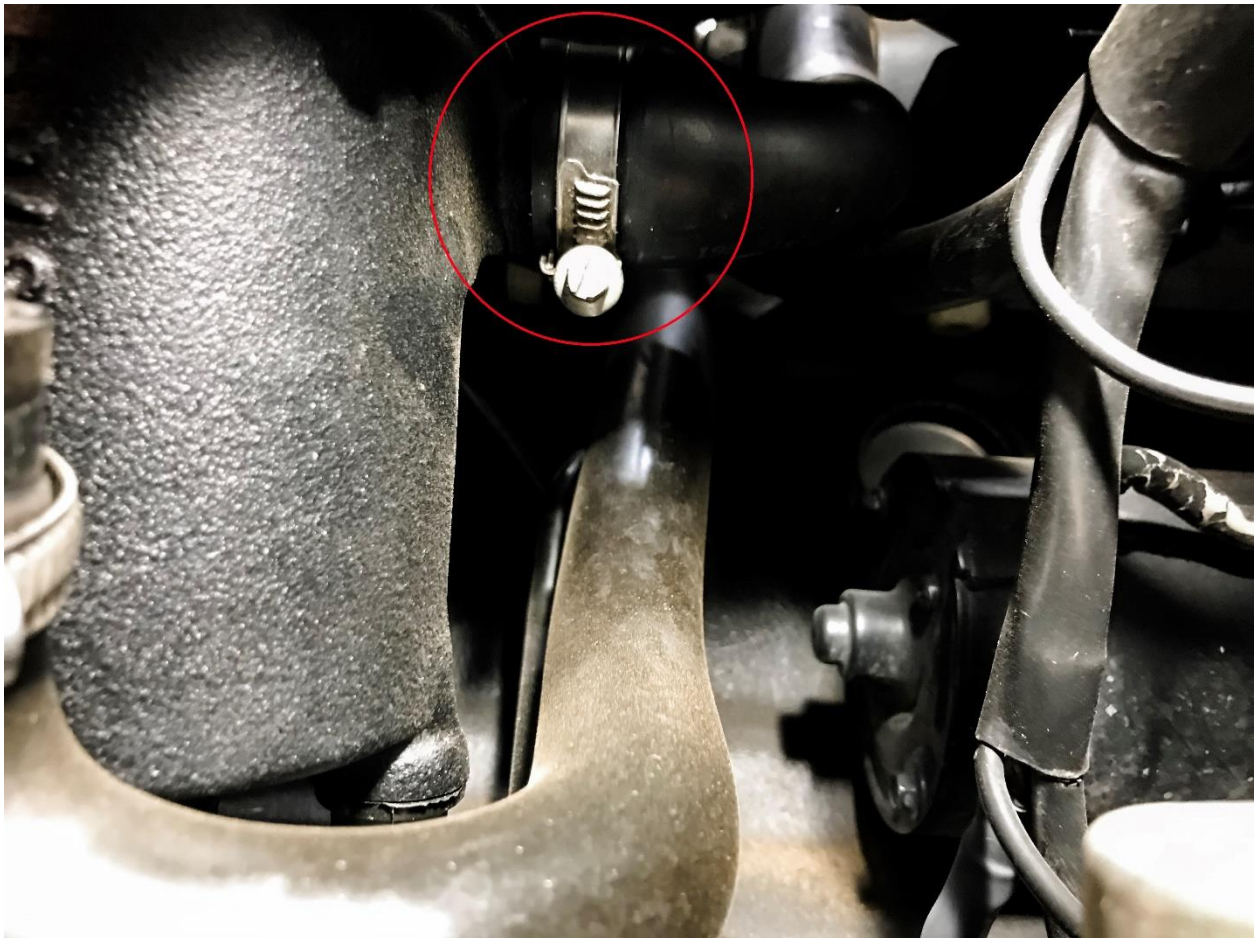

Figure 9
9. Again, using your flat head screwdriver disconnect the hose for the crank case cyclone separator under the plenum. This is the cylindrical aluminum casting that is bolted directly under the plenum. Have your shop rag ready as you will get a few drips of oil and its best to remove the hose clamp so it doesn't drop. See Figure 9.